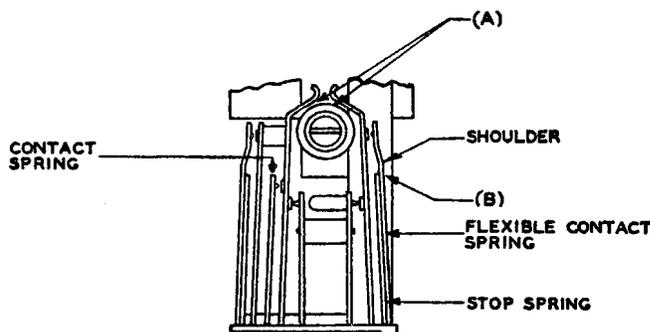

Fig. 1
(a) Fig. 1(A): .005" between plunger springs and rubber plunger.
1.07 *Flexible Spring Position*—Fig. 1(B): Rest on stop spring, at least on end nearest contact, when spring is unoperated.